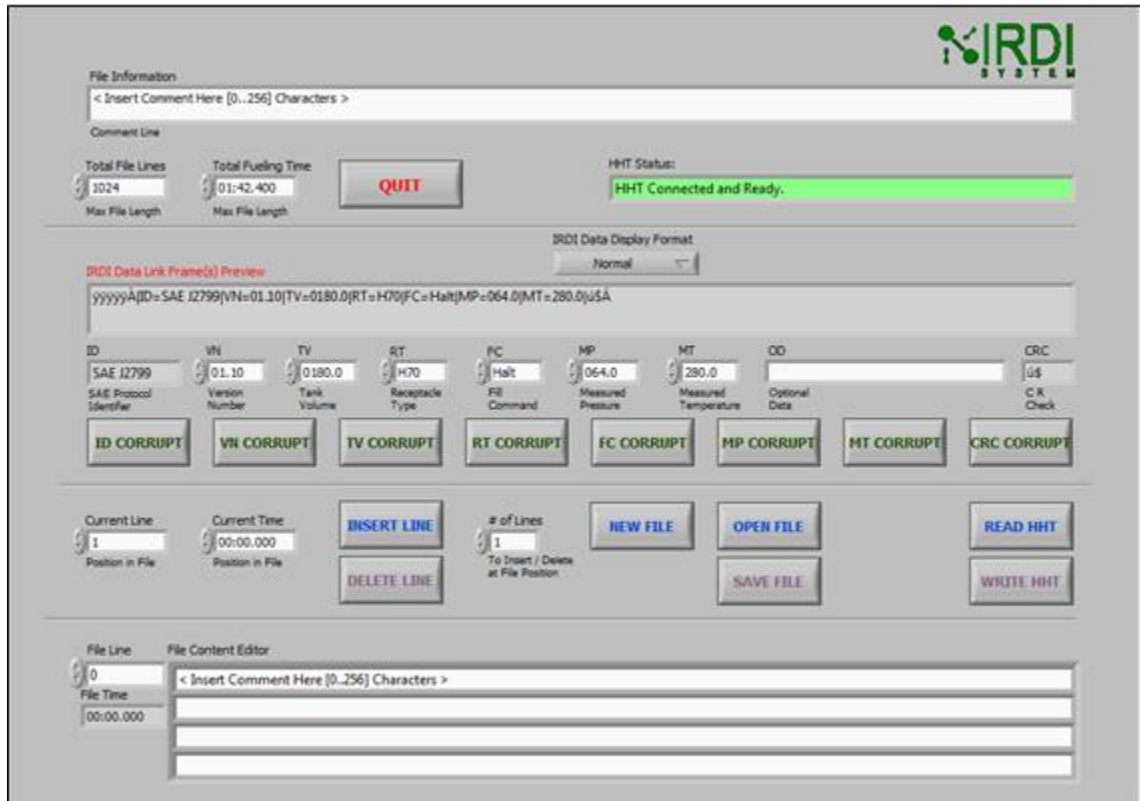

FIGURE 5-11 HHT TEST PATTERN SOFTWARE – STARTING A NEW FILE
STEP 3	The screen will now appear as shown in Figure 5-11.